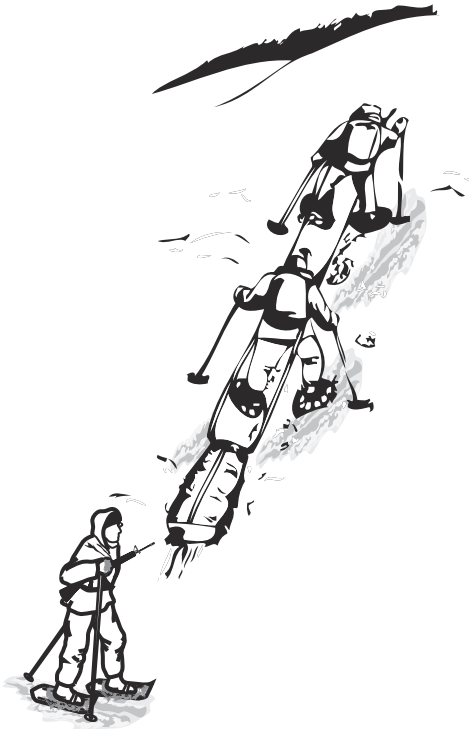

Figure 8-6. Ascending Steep Slopes.
- Ascending steep slopes may require two sled pullers with assistance from a third using ski poles, as shown in figure 8-6 on page 8-6.